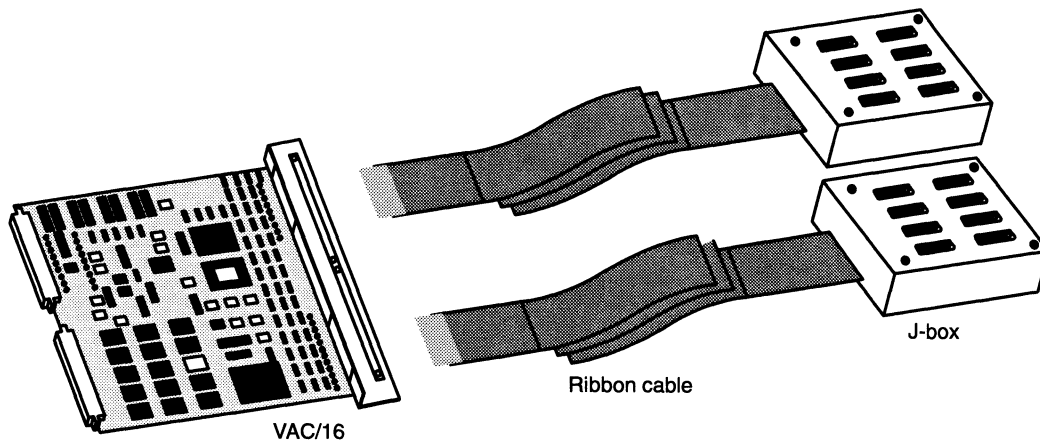

Figure D-4 Model 7411-K VAC/16 and J-Box Assembly
1. After you configure the board as described in Chapter 2, lay it on a static-free surface with the junction box assembly(ies) you plan to install. See Figure D-4. Lay out the assembly to avoid working over, and possibly damaging, the board components.